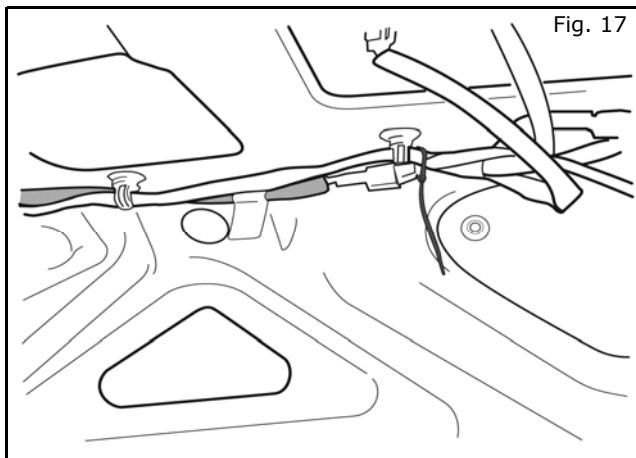

Fig. 17
- a) Find the brown connector near the center hole (right of left side). (Fig 17) Connect CHMSL jumper harness.